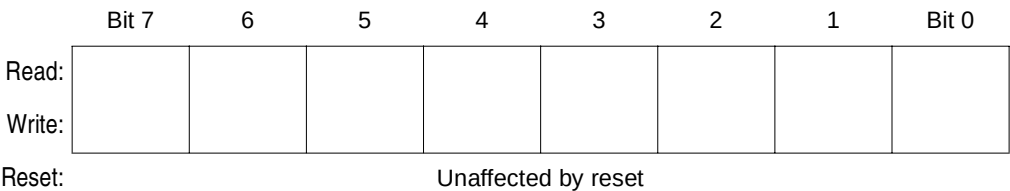

Figure 3-3. Index Register (X)
In the indexed addressing modes, the CPU uses the byte in the index register (X) to determine the conditional address of the operand (Figure 3-3). For more information on indexed addressing, see 12.3.5 Indexed, No Offset, 12.3.6 Indexed, 8-Bit Offset, and 12.3.7 Indexed, 16-Bit Offset.